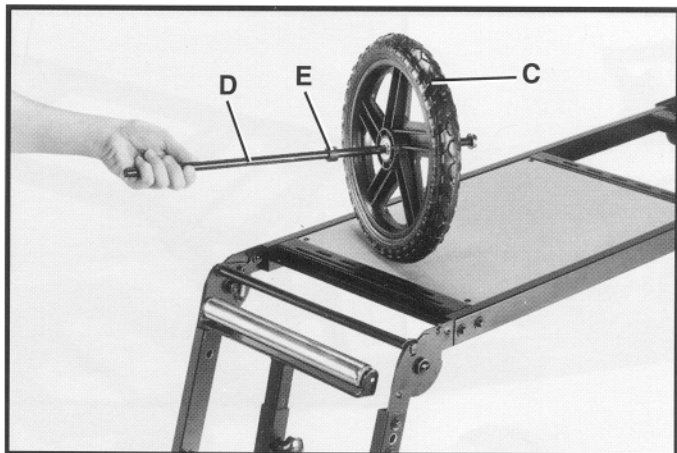

Fig. 17
2. Place wheel (C) Fig. 17, on axle (D) against the axle cap that was assembled to axle in **STEP 1**, and slide spacer (E) on axle and against wheel.